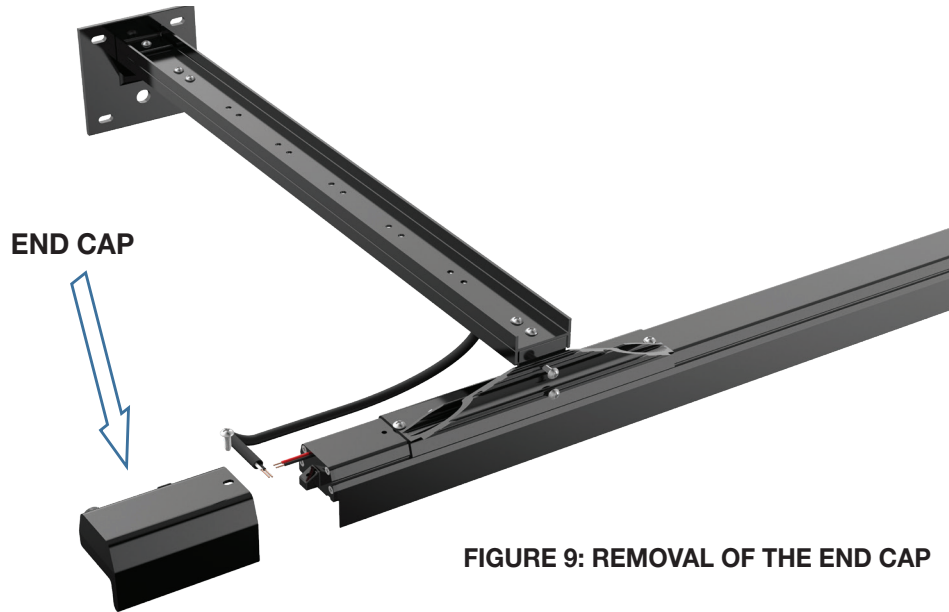

FIGURE 9: REMOVAL OF THE END CAP
2. Remove the end cap that will host the power connection (see Figure 9).